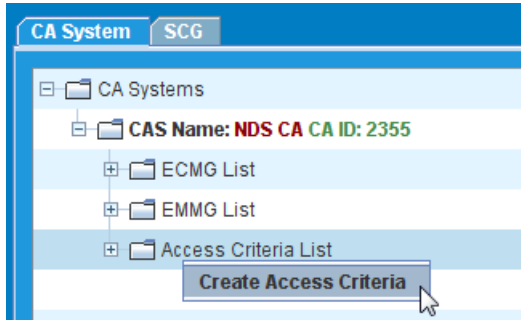

Figure 269. Create Access Criteria pop-up
2. Right-click over the **Access Criteria List** folder and select **Create Access Criteria** from the pop-up menu (Figure 269).